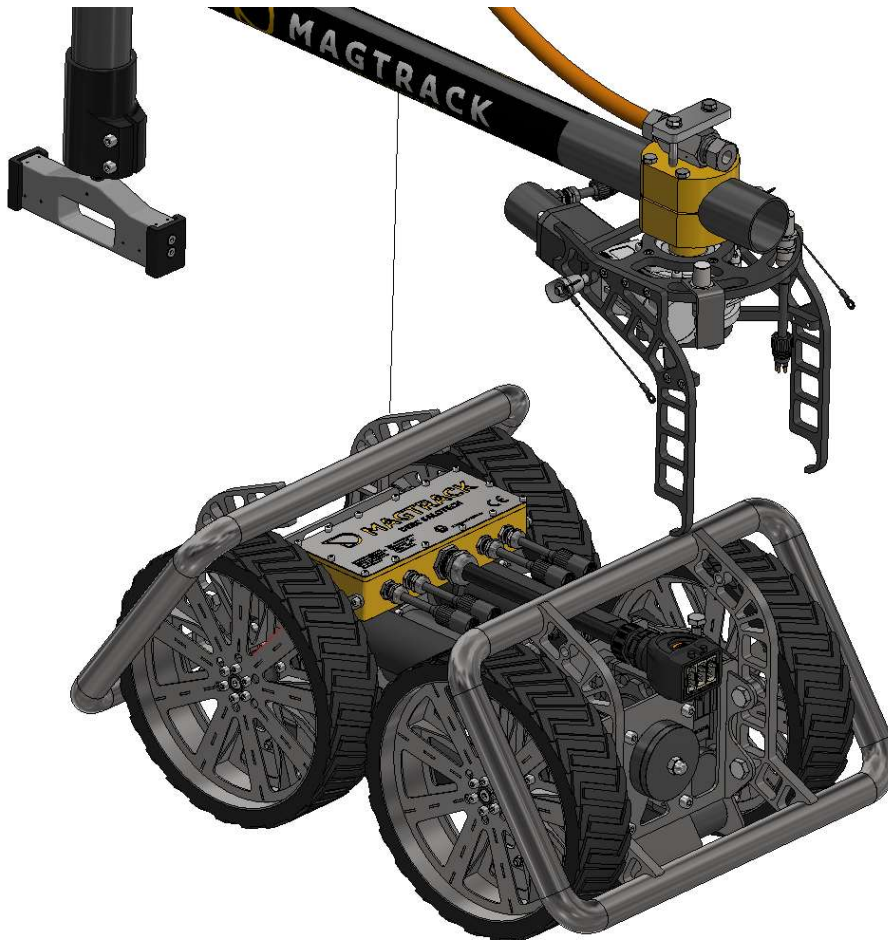

Figure 23 Placing the swing arm
1. Place the swing arm brackets on the rear-guard bracket of the carrier as shown in Figure 23.